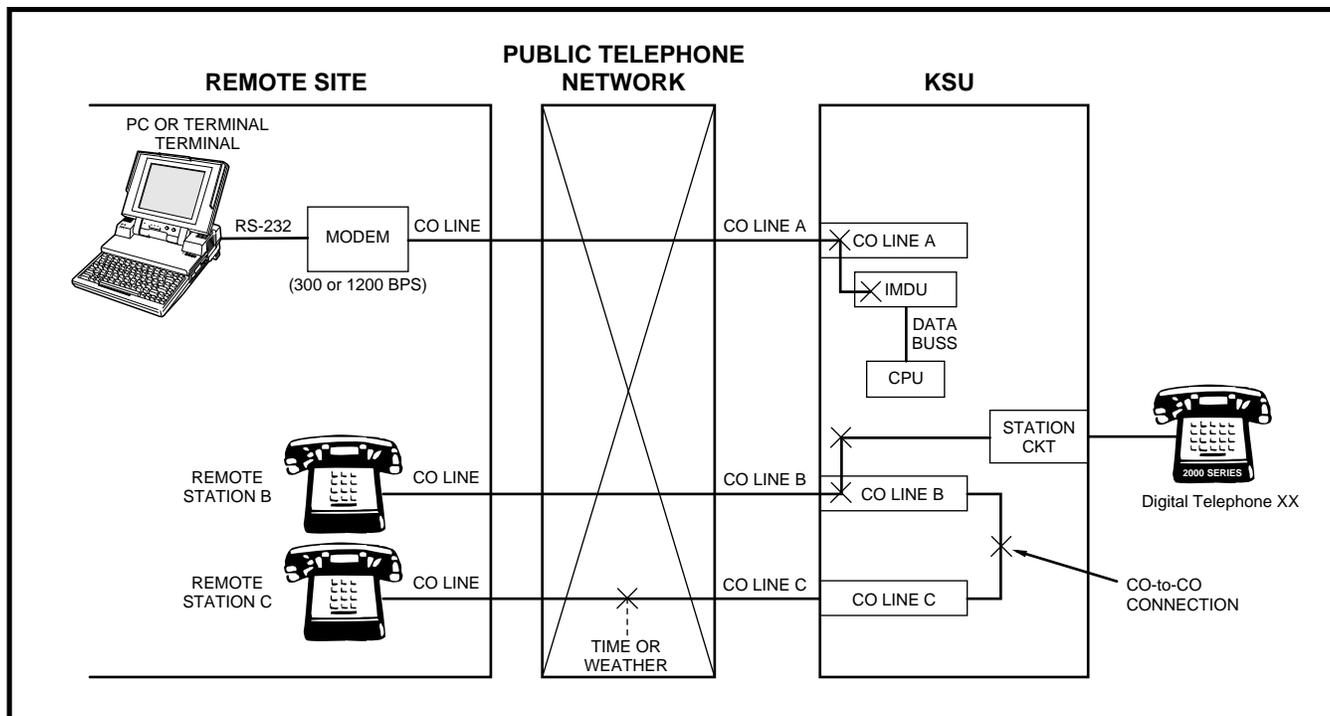

FIGURE 5
10.02 This testing function is accomplished by accessing stations from the remote terminal, and activating various buttons on digital and electronic telephones to make telephone calls, set function buttons, change the system time and date, etc. (see Figure 5).
10.11 To test CO line transmission, two or three CO lines must be available at the remote site (see Figure 5).